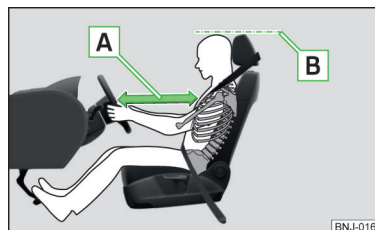

Fig. 1
- ✓ Adjust the steering wheel so that the distance **A** between the steering wheel and your chest is at least 25 cm » Fig. 1, Adjusting the steering wheel » page 10, Adjusting the steering wheel position.
- ✓ Adjust the head restraint so that the top edge of the head restraint is at the same level as the top of your head ¹⁾ **B** » Fig. 1.
- ✓ Adjust the head restraint so that the top edge of the head restraint is at the same level as the top of your head ¹⁾ **B** » Fig. 1 on page 9.
- ✓ Adjust the head restraint such that the top edge of the head restraint is at the same level as the upper part of the head  » Fig. 1 on page 9.